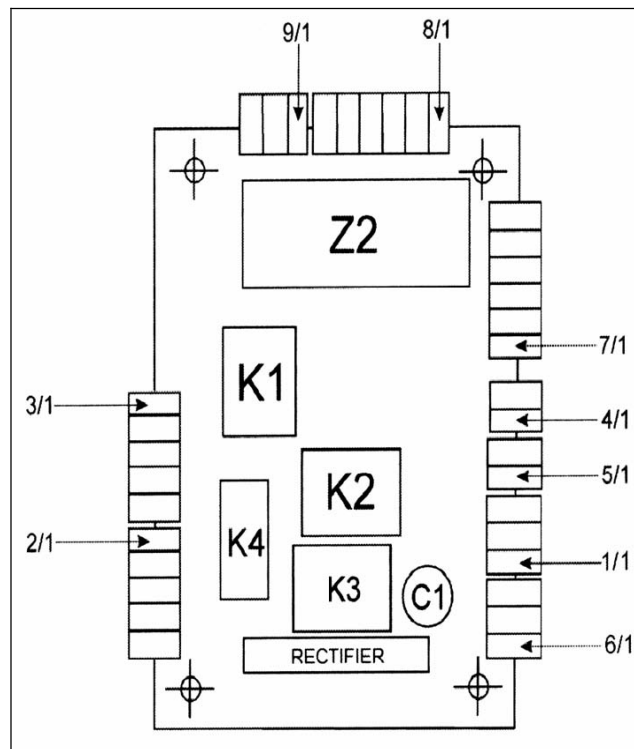

Figure 010-1: Main Electronic N2, B 890
The B 890 and B 990 are equipped with two (2) separate electronic board assemblies: the control electronic (A1), illustrated in Section 050-2.2, and the main electronic (N2). The main electronic is located beneath a cover on the top of the stand, and is responsible for providing power to components. See Figures 010-1 and 010-2.